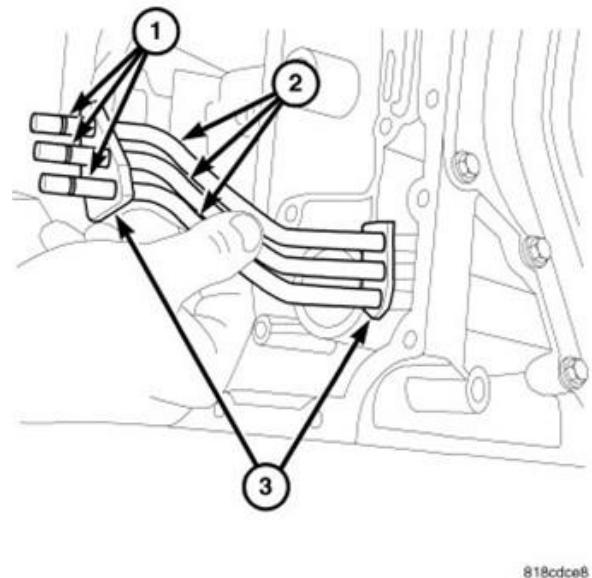

**Figure 16 – Oil Transfer Tubes**
26. Remove the oil transfer tubes (2) being careful to not damage the tube O-rings (1). Do not separate the oil transfer tubes from their retainers (3) (Figure 16).